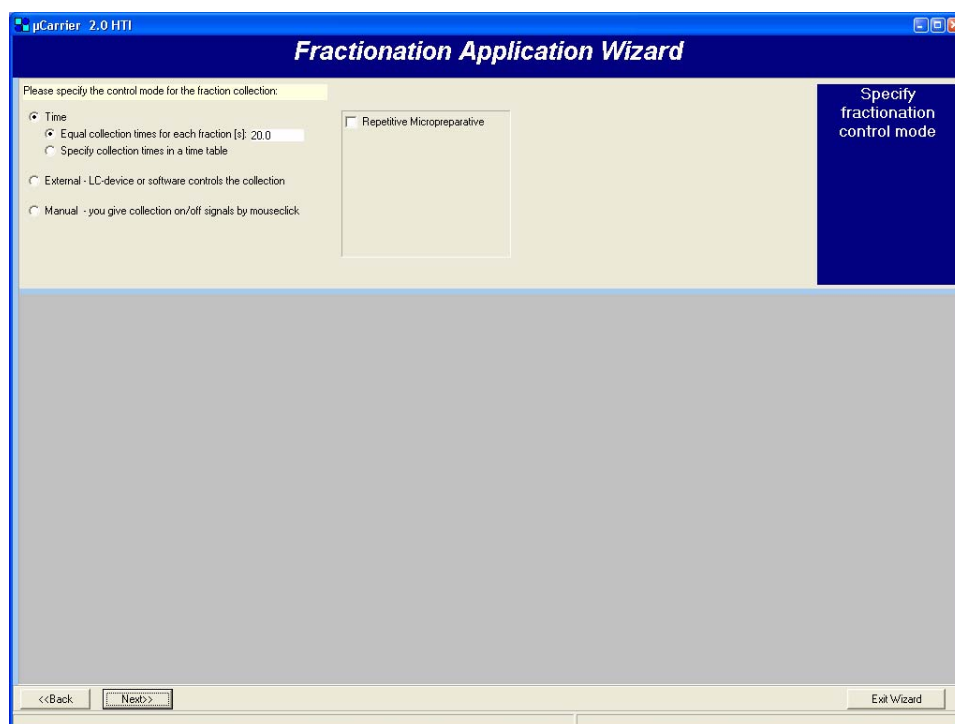

FIGURE 2-37 The Fractionation Application Wizard – Fraction Control Mode
- f) The 'fraction control mode' will be specified in the next step (FIGURE 2-37). The 'fraction control mode' specifies if the collection is controlled by time or by a control signal or by the user.